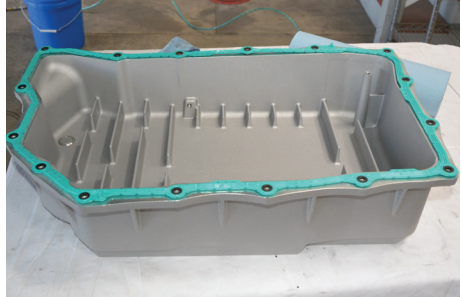

Fig. 3
5. Thoroughly clean the stock gasket and transfer the gasket onto the PPE pan (**Fig. 3**).